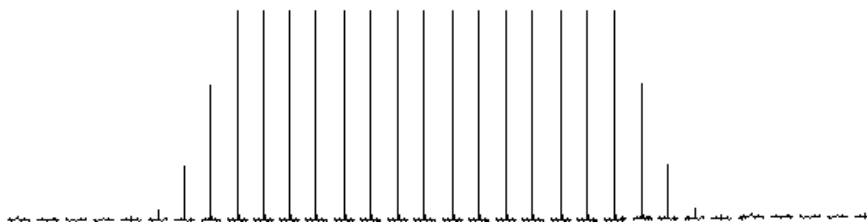

Figure 135. Profile Showing Transfer Time is Correct
12. Enter `wft('all')` to process the data. Enter `dssh` to display the data. If your calculated transfer time is correct, you should see a profile similar to Figure 135 after you enter `dssh`.
The profile shown in Figure 135 is the result of the LC-NMR 2000 program switching the stop flow valve to isolate the sample in the probe exactly on the peak apex, when the highest concentration of sample is in the probe. The flat-topped appearance is the result of the hold time keeping the valve switched for 1 minute.
15. Increment the transfer time for each subsequent loop and restart loop elution as described in **step 14**. The correct transfer time is the time that results in NMR data as shown in **Figure 135**. Typical values are between 10 and 15 seconds at 1 mL/min.